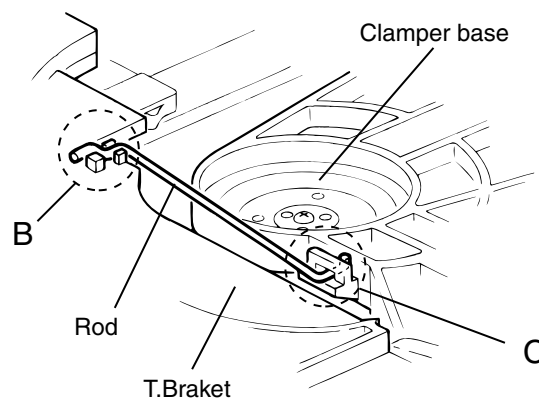

Fig.2
6. From the clamber base section "C", remove both of the edges fixing the rod (See Fig.2 and 3).